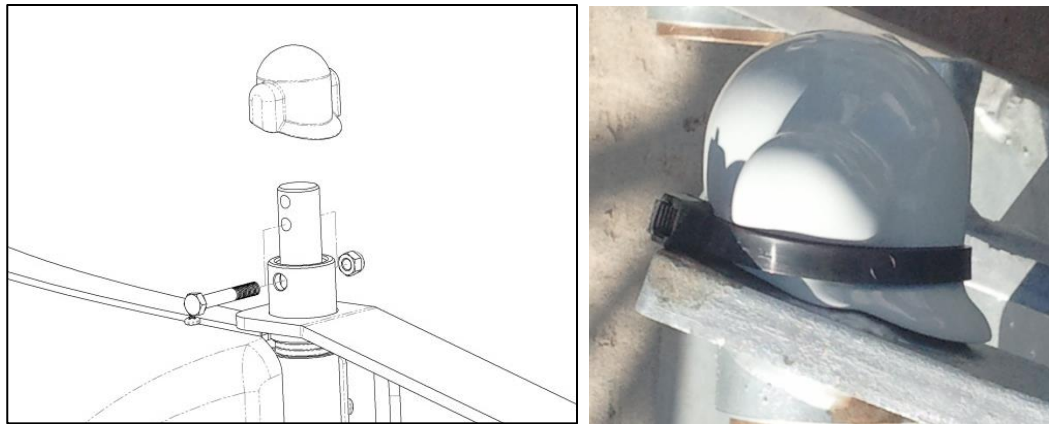

Figure 10: Tail Pivot Pin Cap
8. Place the tail pivot pin cap (P/N 11285) on the pivot pin and use a zip tie (P/N HM0012) to secure it in place, as shown in **Figure 10**.